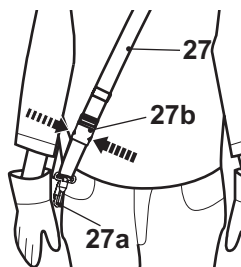

Fig. 22
**WARNING!** Always attach the product to the harness (27). Do not carry it only with your hands!
- In case of emergency hold the soft grip (7a) of the rear pole (7) with the left hand, and use the right hand to press two clips of the quick release (27b). The product together with the securing clip (27a) will be released automatically from the body because of the weight of the product (Fig. 22).